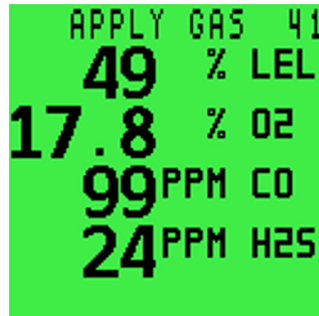

Figure 9-4: APPLY GAS Screen
- Once gas is applied, press and hold the **R** button to start the calibration. The 60 second countdown will commence (refer to Figure 9-4: APPLY GAS Screen). After 60 seconds, the monitor will be calibrated to the predefined values.